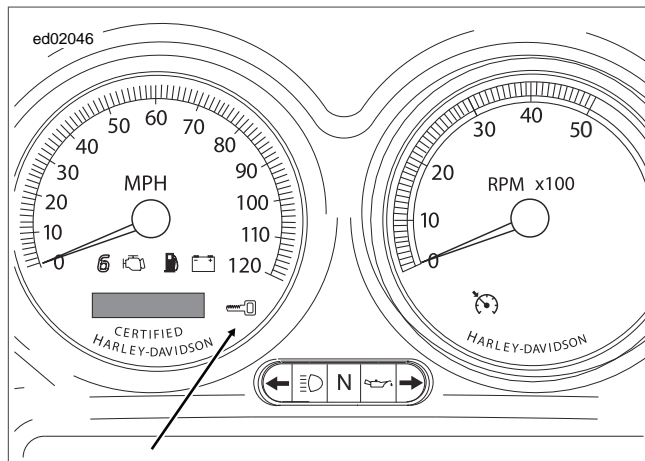

Figure 3-3. Security Lamp (Key Icon - Typical)
- **Security lamp:** See Figure 3-3. A lamp (key icon) within the speedometer face tells the rider if the system is armed or disarmed.